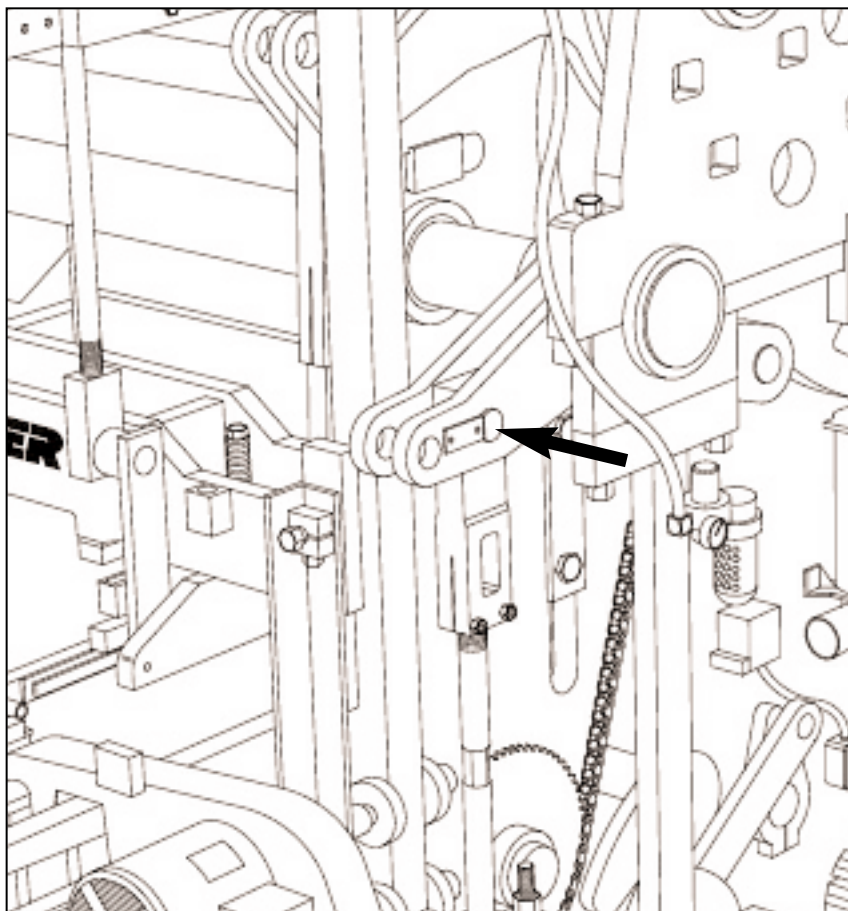

Figure 4.17 PALLET RECEIVER SHAFT POSITION.
4.2.1 The following items should be positioned as shown in figure 4.17 and 4.18:
- a. Pallet receiver shaft - position pins in inside holes (short stroke)(see figure 4.17 below).